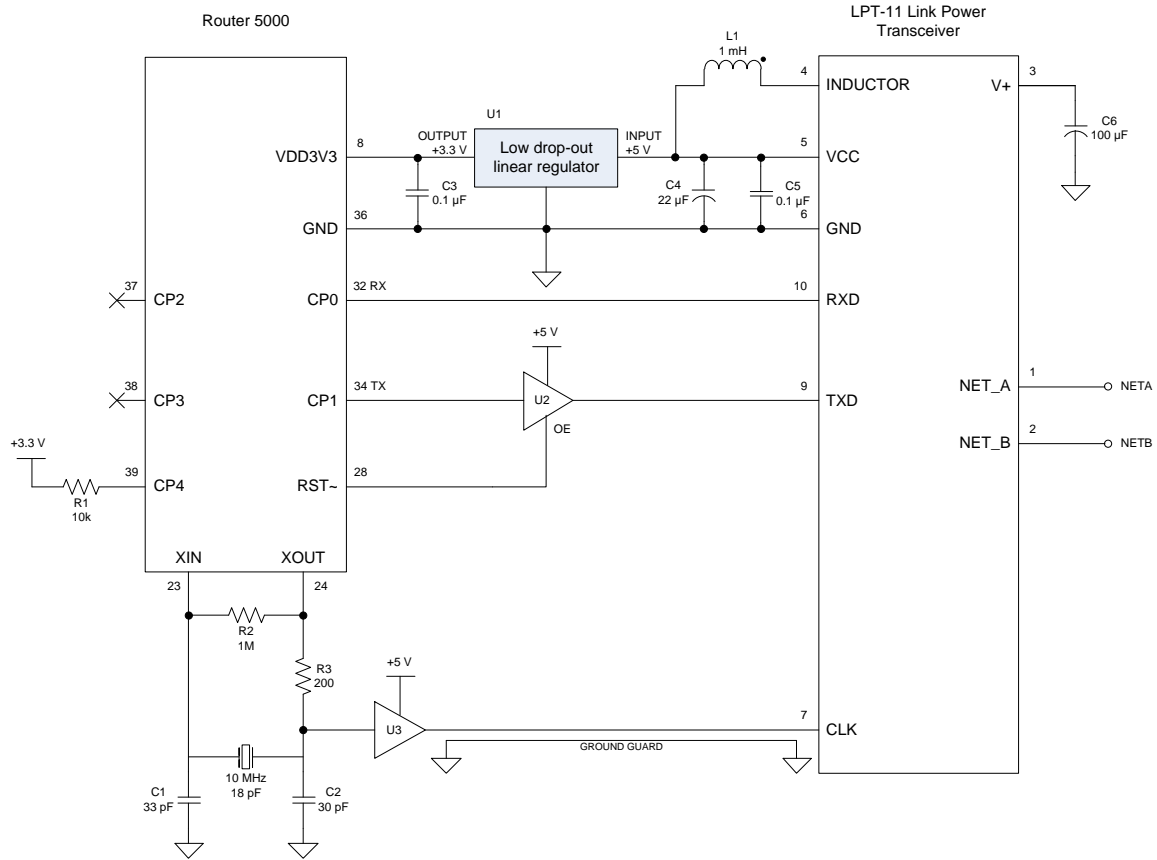

Figure 35. Connecting a Router 5000 to an LPT-11 Link Power Transceiver
Figure 35 shows the basic configuration for connecting a Router 5000 to an LPT-11 Twisted-Pair Link Power Transceiver.
- Clock circuitry — If the Series 3100 router-half requires a 10 MHz input crystal, you can use a single crystal for both router halves and drive the Series 3100 **CLK1** pin from the Series 5000 router **XOUT** pin, using a standard (inverting or non-inverting) bus buffer/line driver that supports TTL-compatible input and 5V CMOS output, such as an NXP 74AHCT1G04 (or a 74AHCT1G126 with OE tied high) — see **Figure 35** for an exemplar clock circuit. However, if the Series 3100 half-router requires an input clock frequency other than 10 MHz, or is a Power Line Series 3100 half-router, do not connect the Series 5000 router **XOUT** pin to the Series 3100 **CLK1** pin, but instead use separate input crystals for each router-half. See *FT Router 5000 Pinout*.